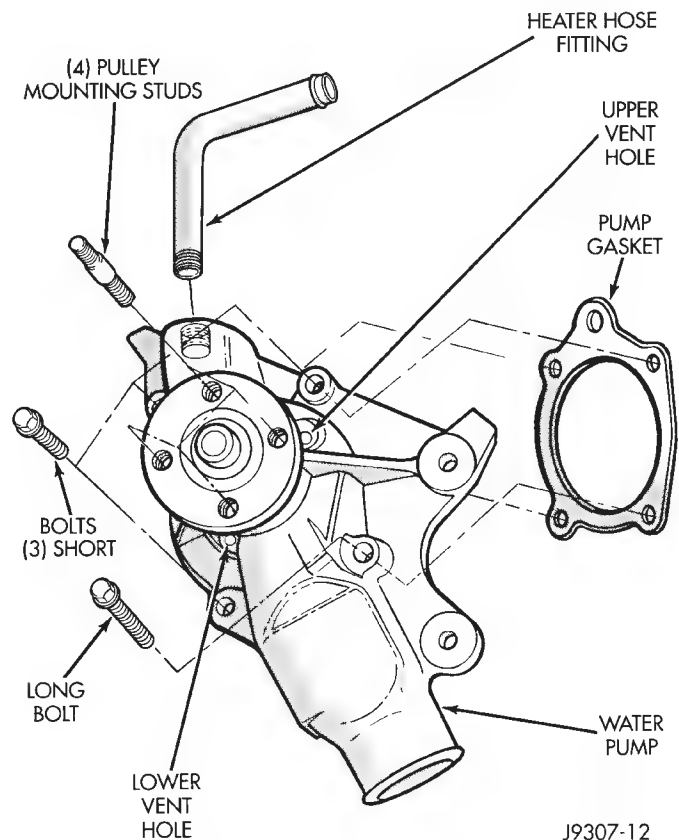

Fig. 10 Water Pump Remove/Install—Typical
(15) Remove the four pump mounting bolts (Fig. 10) and remove pump from vehicle. Discard old gasket. Note that one of the four bolts is longer than the other bolts.